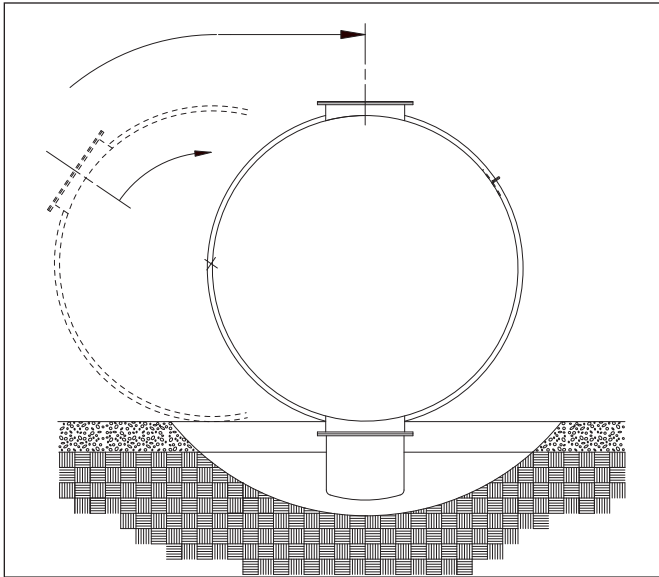
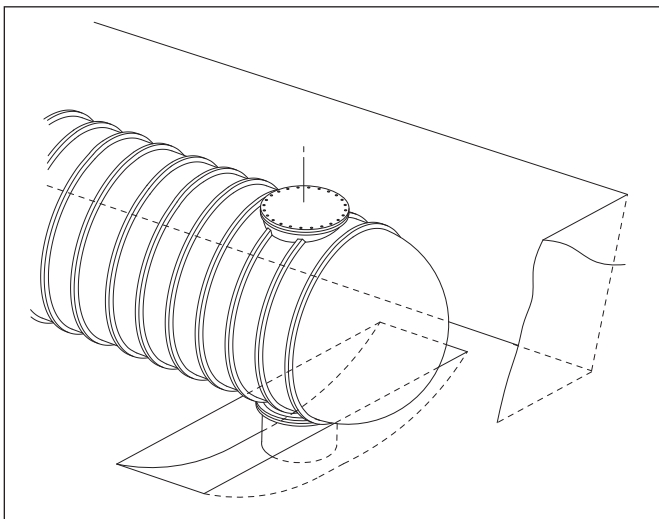

FIGURE 5-1
FIGURE 5-2
5.2.1. When rotating the tank aboveground (outside the excavation hole), dig a separate bottom sump hole alongside the tank. It needs to be large enough to accommodate the sump when rotating the tank. (See FIGURE 5-1.)
5.2.2. Slope the sides of the aboveground bottom sump hole as shown in FIGURE 5-1. This will allow rotating the tank into position.
5.2.3. Align the tank lengthwise alongside the aboveground bottom sump hole so that the bottom sump is lined up with the hole as shown in FIGURE 5-1 and FIGURE 5-2.
5.3.1. When rotating the tank inside the excavation, slope the sides of the bottom sump hole in the excavation as shown in FIGURE 5-2. This will allow rotating the tank into position.
5.3.2. Align the tank lengthwise alongside the bottom sump hole in the excavation so that the bottom sump is lined up with the hole as shown in FIGURE 5-1.